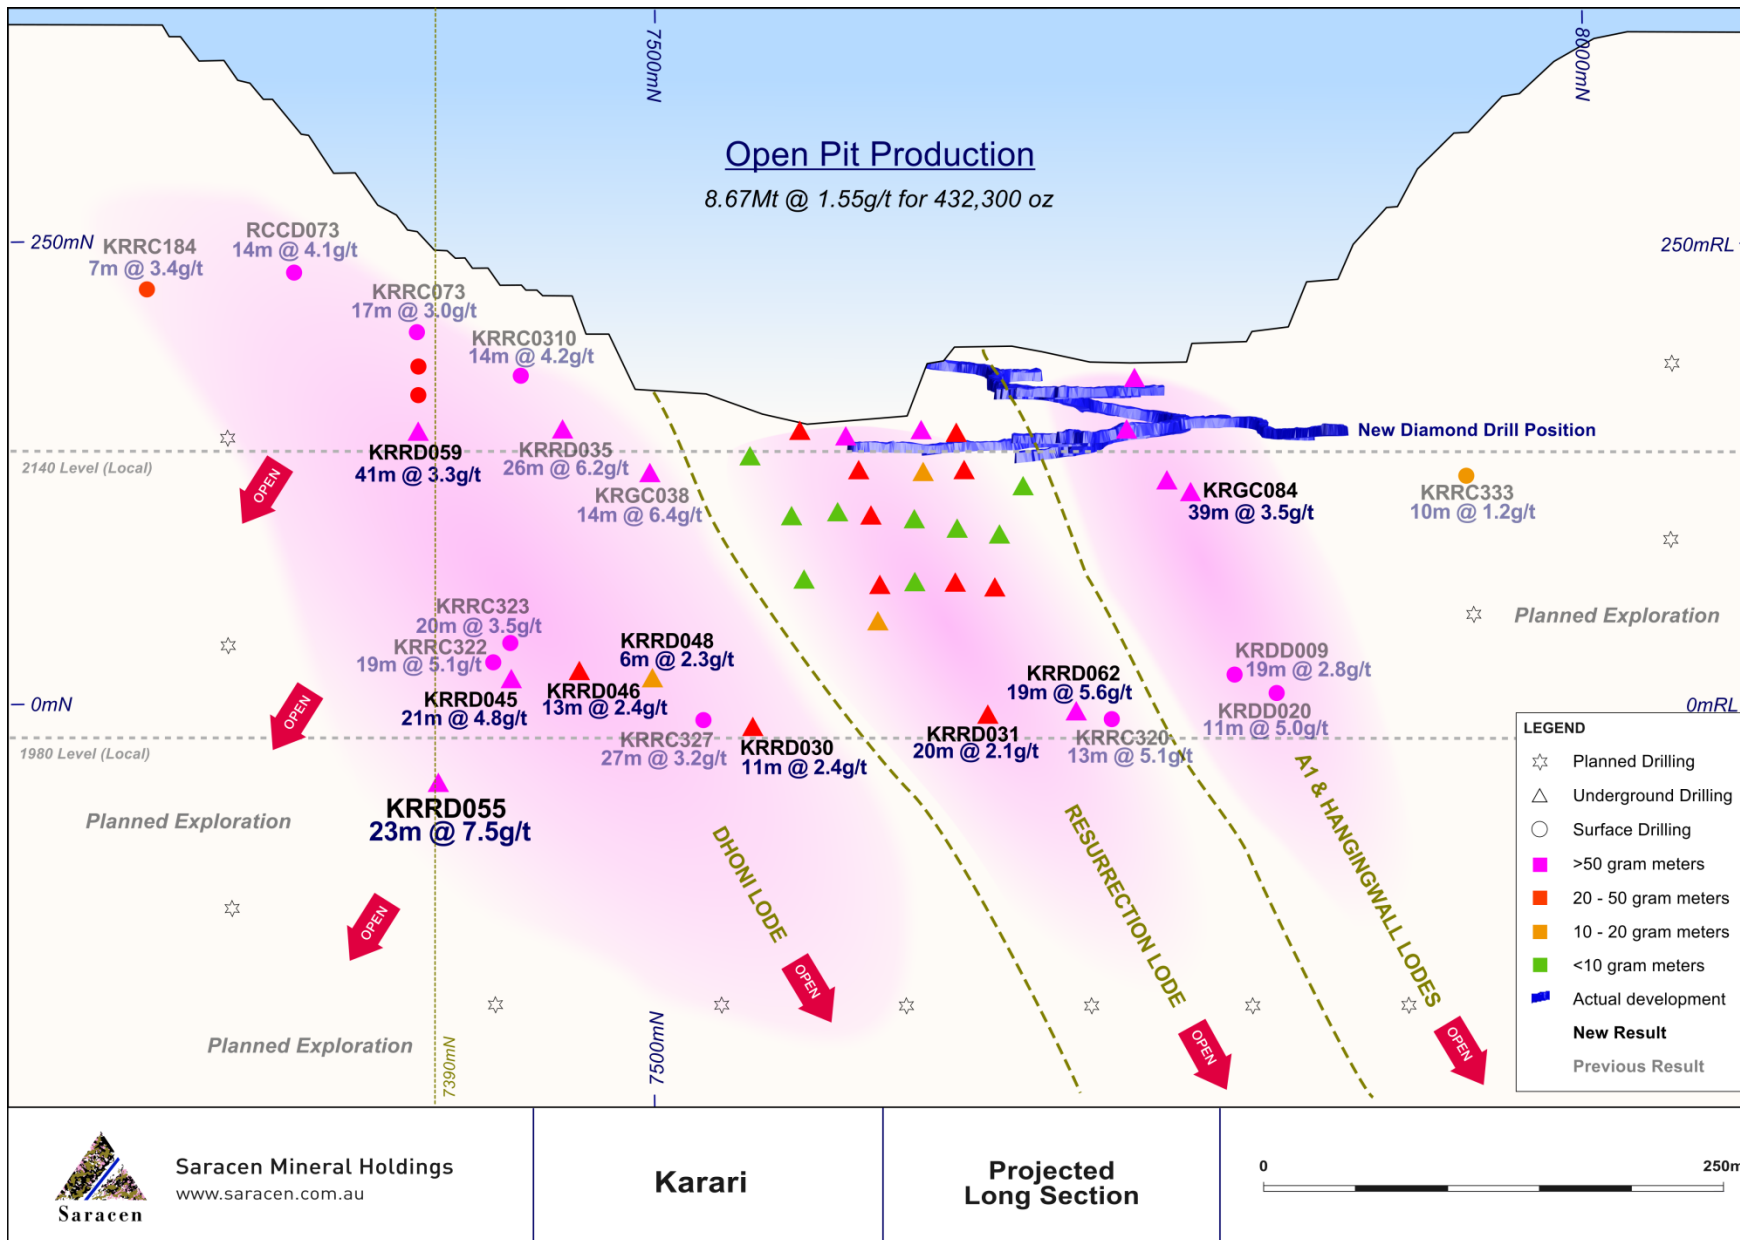

Figure 1: Projected Long Section View of recent high grade drill results at Karari
- Shallow mineralisation (deepest intersection just 405m below surface – Figure 1);